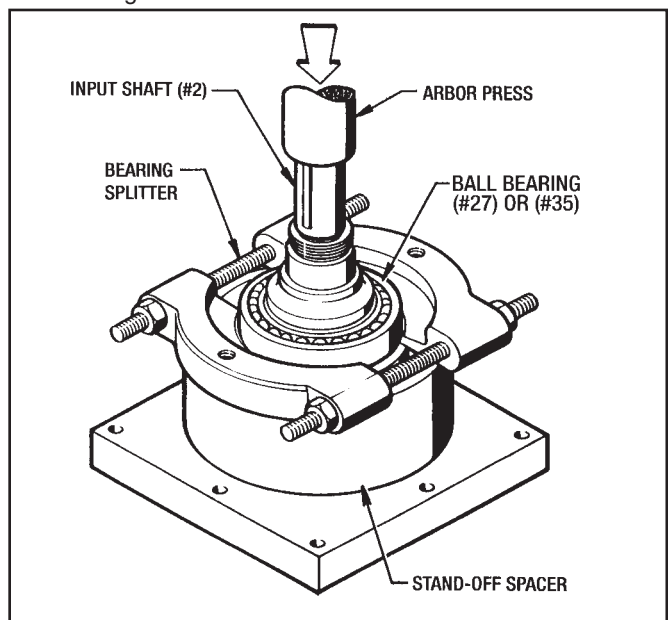

Figure 7.4 - Removing Bearing From Input Shaft
3. Use a Bearing Splitter to remove Bearing (#27) from the Input Shaft. (See Figure 7.4).
3. Use a Bearing Splitter to remove Bearing (#35) from the Input Shaft. (See Figure 7.4).
- Remove Bearing (#26) from the Output Shaft with a Bearing Puller or a Bearing Splitter like the one shown in Figure 7.4.
- If Bearing (#28) has to be replaced, use a Bearing Splitter, like the one shown in Figure 7.4, to remove it.